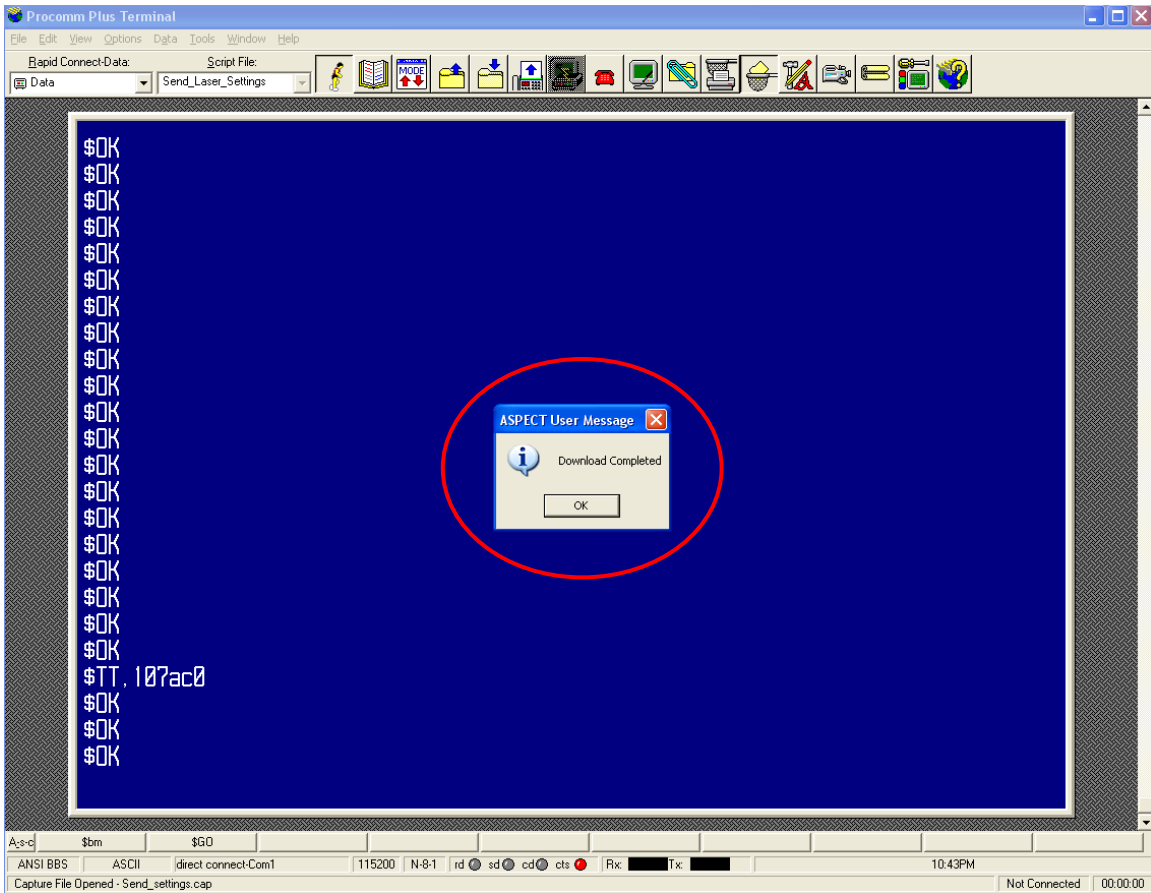

Figure 38
- A new user message will appear when all settings have been sent to the sensor. Click **OK** to close the **Capture file** and end the script (fig. 38).